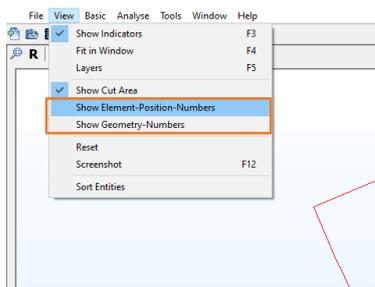

Figure 26
- Press button **View** in the *Main Menu* to deactivate [**Show Element-Position-Numbers**] and [**Show Geometry-Numbers**] (Figure 26).